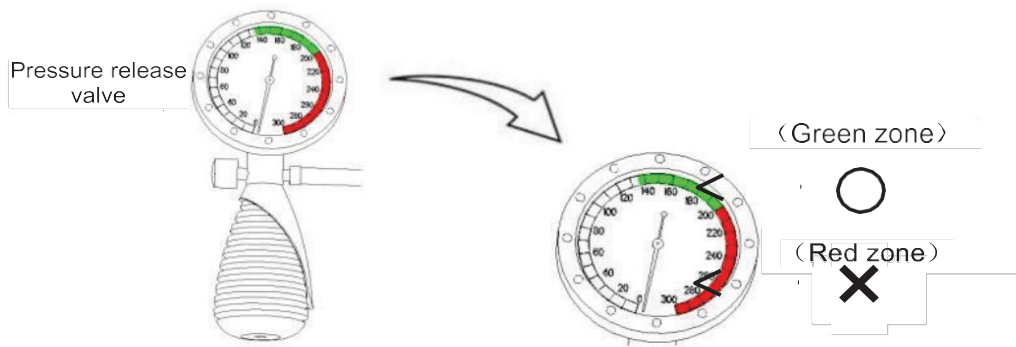

Fig 7.6
- Only the leak test pressure connector can be immersed. (as shown in Fig7.6). Immersion of other components of the leakage tester may lead to its damage.
- The pressure shall not exceed 200 mmHg. If the pressure increases too much, it might damage the endoscope. Press the pressure release valve to discharge the air (as shown in Fig 7.6).